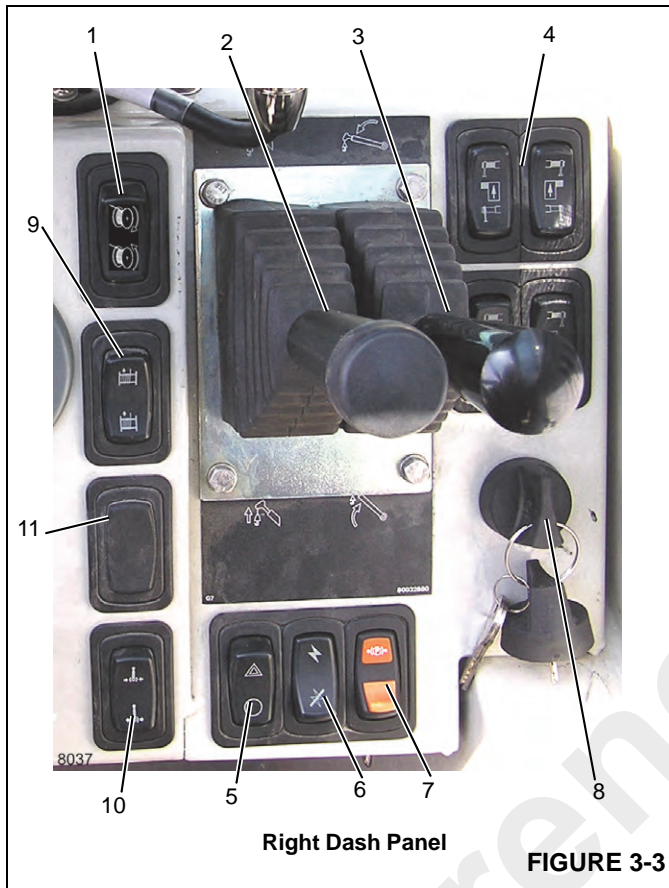

FIGURE 3-3
Refer to Figure 3-3.
The DRI (1) (Figure 3-3) is two lights that illuminate to indicate the direction the hoist is rotating.